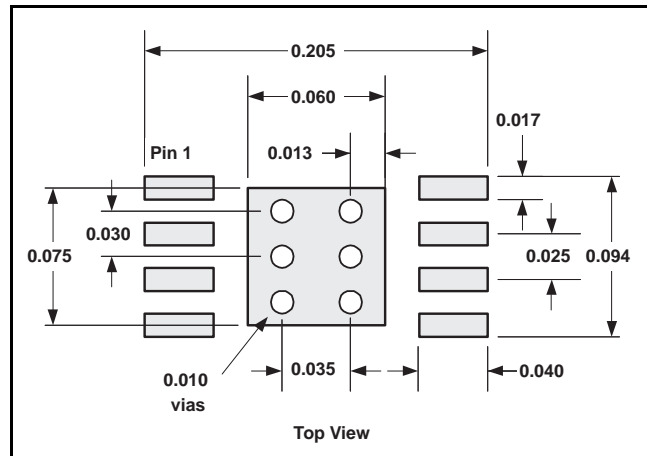

Figure 112. PowerPAD PCB Etch and Via Pattern
1. Prepare the PCB with a top side etch pattern as shown in Figure 112. There should be etch for the leads as well as etch for the thermal pad.